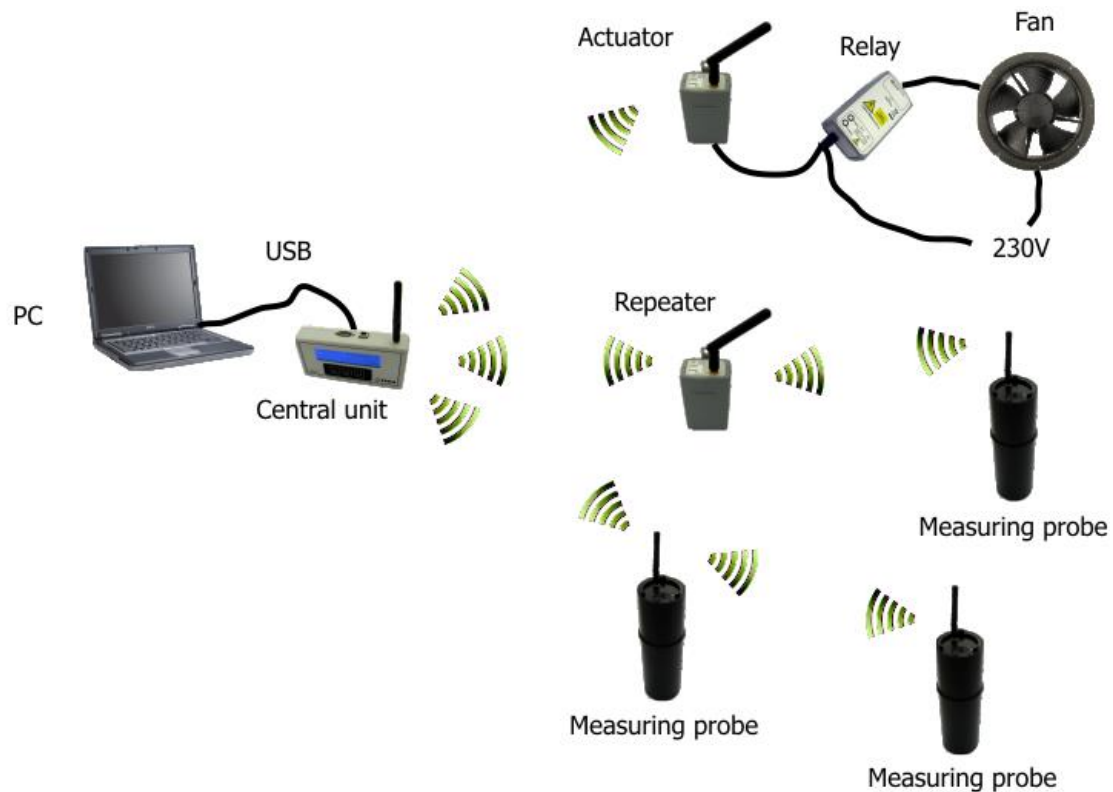

Figure 2 - TERA System for Regulating Radon Concentrations
- B) TERA System for Regulating Radon Concentrations (Figure 2)